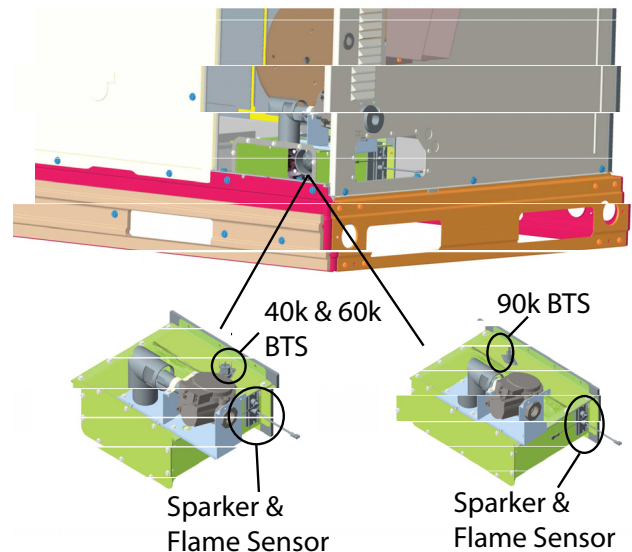

Fig. 31 – Burner Thermal Switch (BTS) (Ultra Low NOx) A200287
2. Remove 2 screws holding the flue hood (Fig. 31) and remove the flue hood.
6. Re-connect flue hood (Fig. 31) using the 2 screws removed.